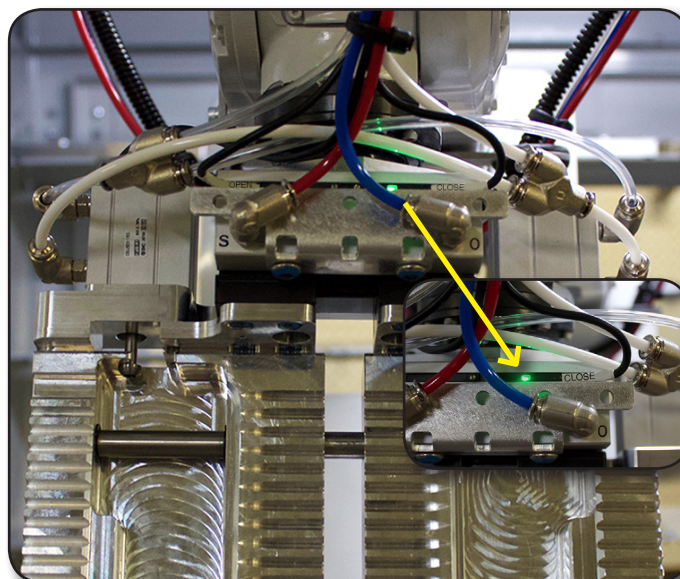

FIGURE 4. CLOSED GRIPPER SENSOR
- a. Near the gripper fingers, clamp the 0.02" feeler gauge with the O.D. vise jaws. Adjust the sensor to make the sensor light illuminate (as shown in Figure 4).